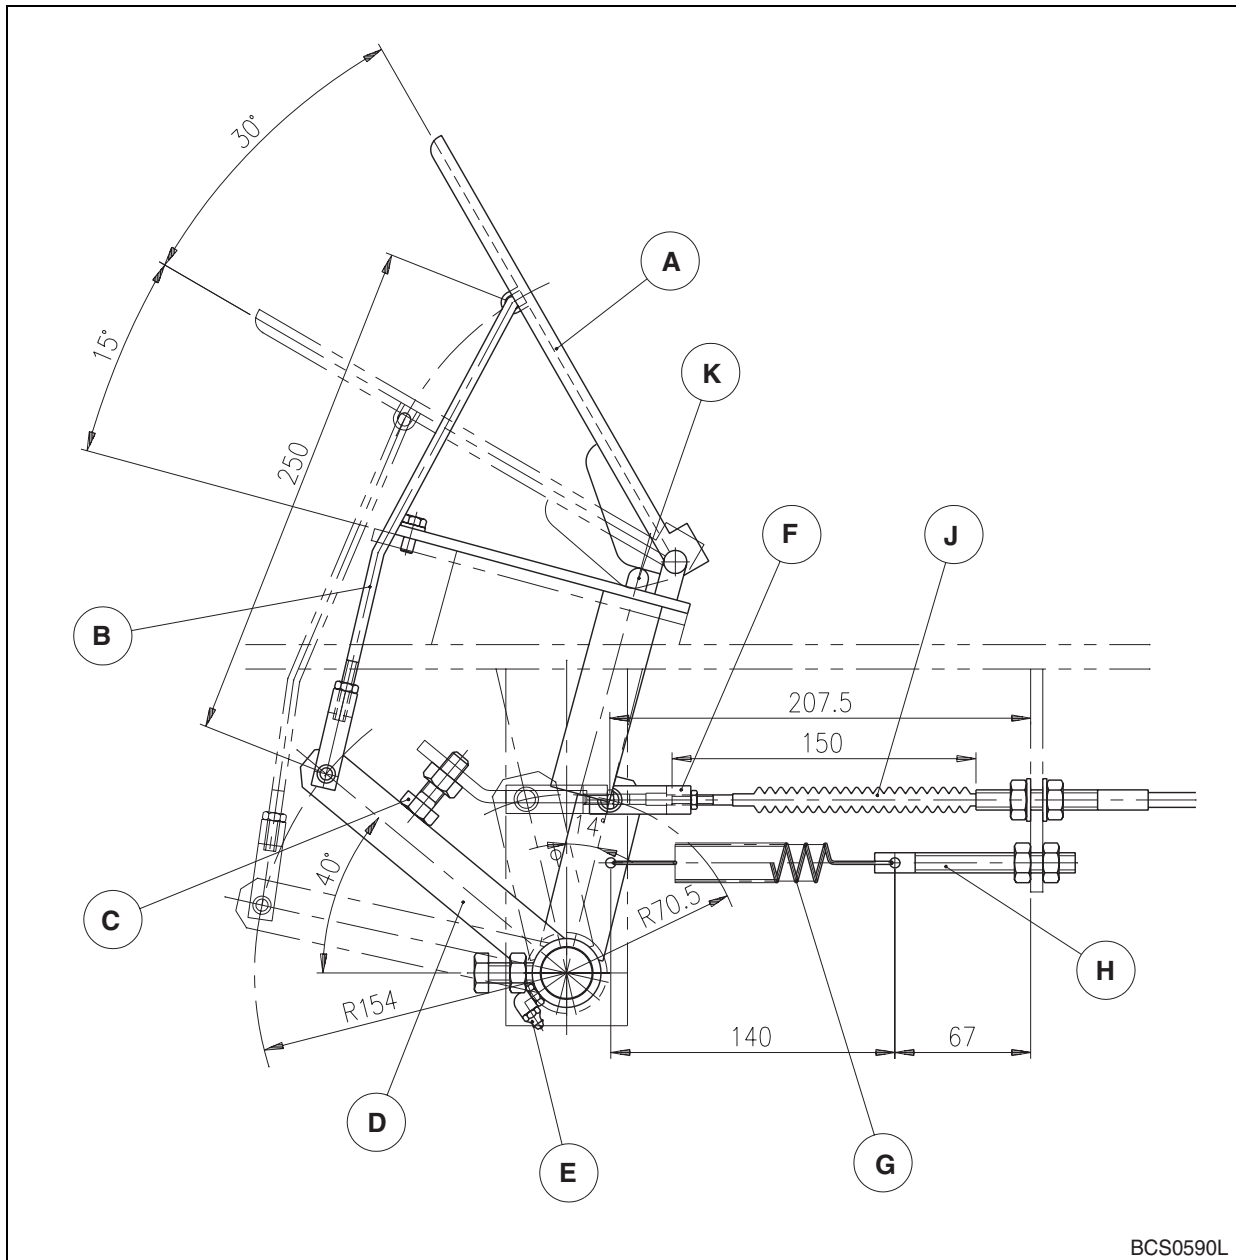
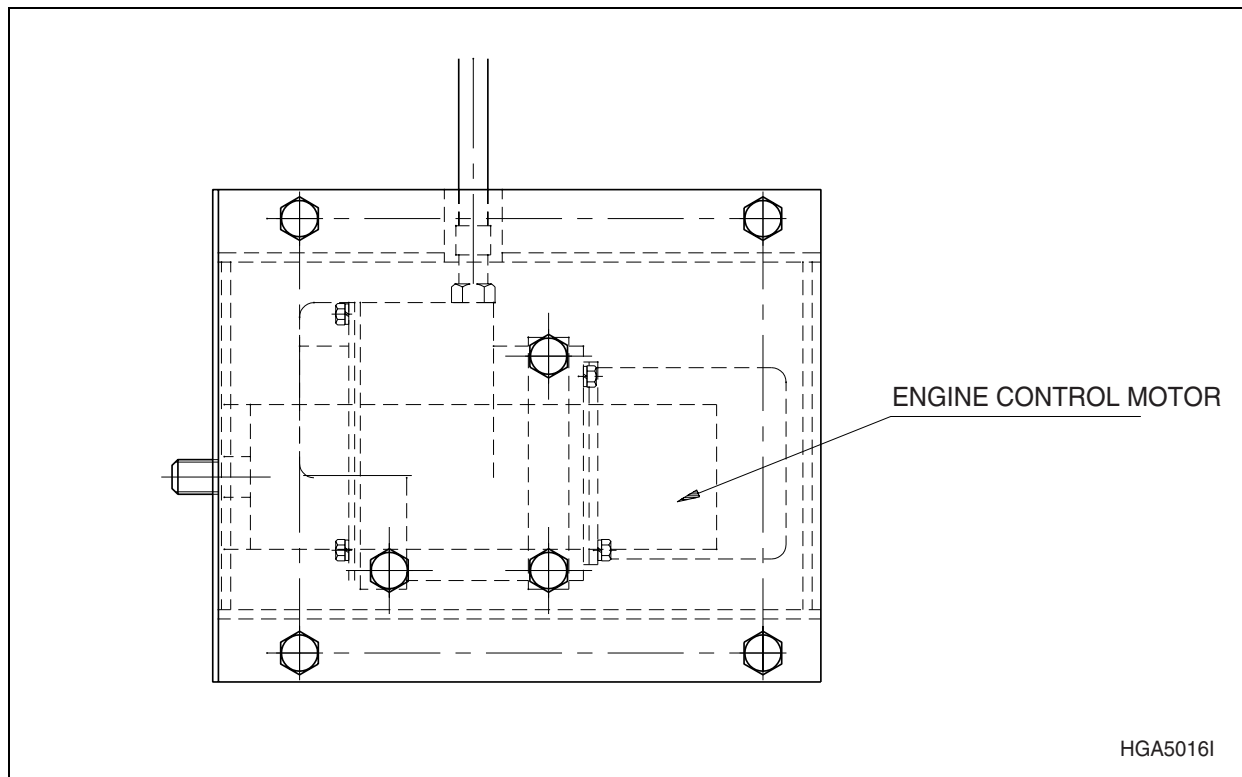
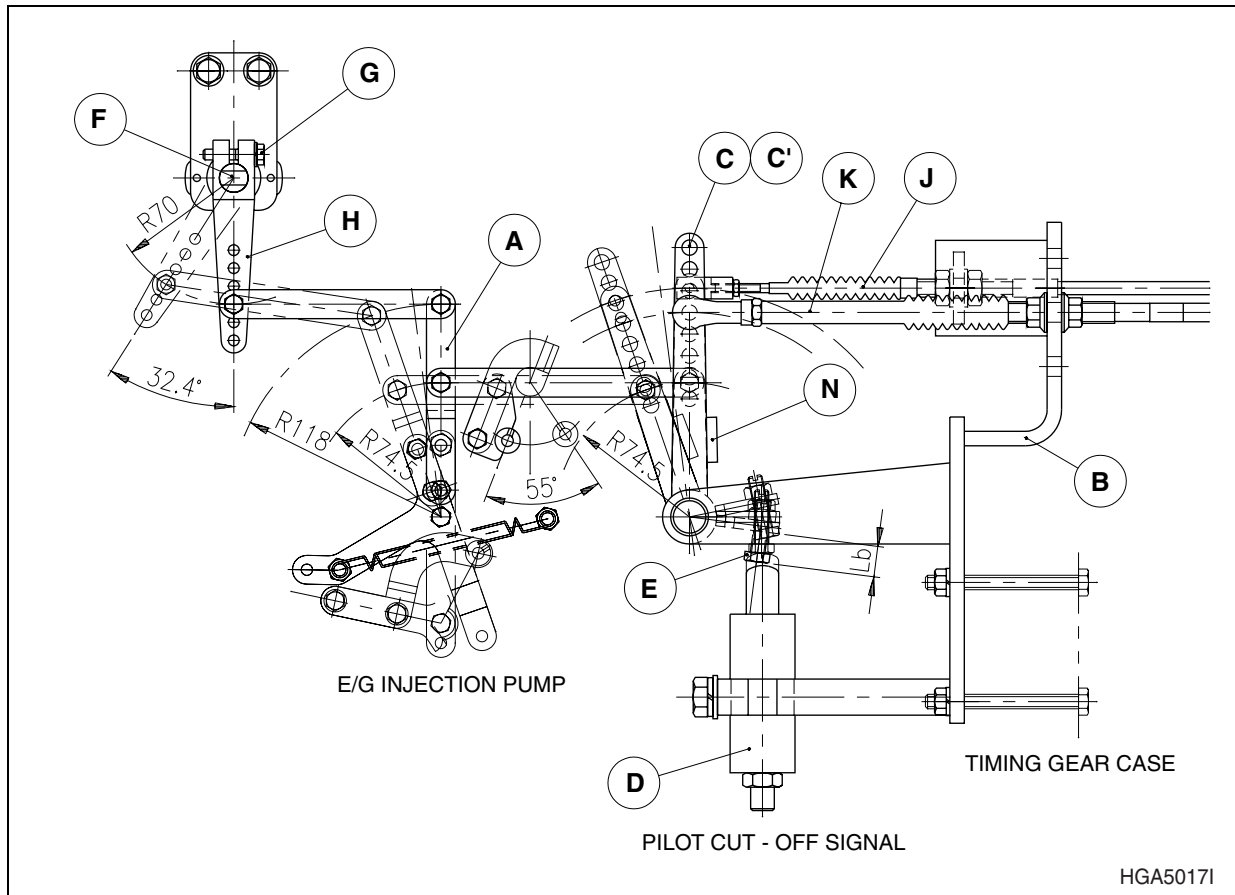

Figure 68
Figure 69
Figure 70
Accelerator Pedal (Refer to Figure 68)
1. Assembled length of rod (B, Figure 68) must be adjusted to 250 mm.
2. With rod (B, Figure 68) adjusted to 250 mm, adjust stop bolt (C) so that pedal (A) touches plunger (K) of run modulation valve.
NOTE: *Make sure that plunger (K, Figure 68) is not being depressed.*
3. After the rod (H, Figure 68) is temporarily assembled to bracket, install spring (G) between lever (D) and rod (H). Adjust the rod (H) to an initial installation length of 67 mm. Spring (G) should be adjusted to a length of 140 mm.
4. Extend cable (J, Figure 68) out of cable sheath 150 mm, attach end of cable to clevis (F, Figure 68). Attach the cable to bracket.
At this time, adjust the insertion depth of cable (J, Figure 68) end into clevis (F). Then adjust cable in bracket so that it is again adjusted to 150 mm.
5. Inject grease into grease fitting (E, Figure 68) to ensure proper lubrication.
Engine Control Motor (Refer to Figure 69 and Figure 70)
1. The engine control motor (Figure 69) holds the cable length that was set pulled at maximum when responding to a "HIGH IDLE" position.
2. When installing the motor on frame, be careful not to bend cable, connect it to bracket (B, Figure 70) temporarily with nuts.
Inspection Before Adjustment (Refer to Figure 70)
1. Adjust bolt (E, Figure 70), so that its head is at the minimum height "Lb."
3. Adjust accelerator pedal cable (J, Figure 70) and engine control motor cable (K, Figure 70) using the following method.
- A. Attach cables (J and K, Figure 70) to levers (C) and (C), in the hole positions shown in Figure 70.
- B. Cable (J, Figure 70) has a tendency to hang-up once in a while on the accelerator pedal end. Before attaching cable (J) to bracket (B), pull cable (J) to ensure it is extended all the way. (Do not apply excessive force.)
- C. Attach cables (J and K) to bracket (B) so that levers (C) and (C) touch the stop plate on lever (N). Adjust cables so they do not hang down.
Travel Mode RPM adjustment (Refer to Figure 70)
- B. Adjust the screw part of cable (J, Figure 70) installed on bracket (B, Figure 70) so that lever (A) just touches engine high idle stop.
NOTE: *By adjusting cable (J, Figure 70) at bracket (B, Figure 70) this will ensure that the accelerator pedal is properly depressing plunger (K, Figure 68).*
- B. Check that lever (A, Figure 70) touches the engine low idle stop and the cable's installation position is proper.
- C. If lever (A, Figure 70) does not touch the engine low idle stop this means that there is not enough cable stroke.
- 1) Move the screw part of cable (J, Figure 70) to the left till lever (A, Figure 70) touches the engine low idle stop.
- 2) When fully depressing accelerator pedal, adjust length of rod (B, Figure 68) longer (more than 250 mm) so that lever (A, Figure 70) touches the high idle stop.
NOTE: *If length of rod (B, Figure 68) is made excessively long, lever (A, Figure 70) will touch the engine high idle stop before the accelerator pedal (A, Figure 68) fully depresses plunger (K, Figure 68). Check whether the plunger is fully depressed or not.*
- B. Check that plunger (D, Figure 70) of engine speed limiter (pilot cutoff signal) works as work/travel select switch is set to "WORK" or "TRAVEL."
- Rotate shaft (F, Figure 70) so that the TPS voltage value matches the value found on the table and tighten bolt (G).